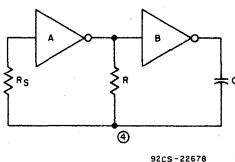
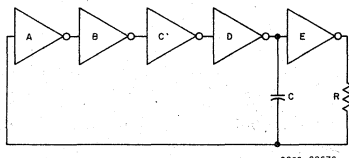

Fig. 4—RC-oscillator with the addition of  $R_S$ .
Fig. 8 - CD4047A oscillator section
The negative features of the input protection circuit can be partially compensated for by the addition of a resistor,  $R_S$ , in series with the input protection circuit, as shown in Fig. 4. Although the input inverter A is still clamped at one diode drop above  $V_{DD}$  or one diode drop below  $V_{SS}$ , the waveform at point (4) is allowed to swing well above  $V_{DD}$  and below  $V_{SS}$ . The larger swing reduces the dependency of transfer-voltage variations upon stability; the variable characteristics of the input protection circuit and their effect upon stability are greatly reduced. An analysis of this circuit is presented in
The RCA-CD4047A is an integrated RC oscillator that eliminates most of the disadvantages of the discrete circuits previously discussed. The primary reason for this improved performance is the special input-protection circuit which allows the capacitor charging waveform to swing above  $V_{DD}$  and below  $V_{SS}$  without the need for an external resistor. This circuit, shown in Fig. 8, has the same time period and stability as the circuit in Fig. 4 for the case where the value of  $R_S$  is infinite. However, a resistor is eliminated, as well as the disadvantages of a time constant caused by the resistor.
An additional advantage of the CD4047A is a reduction in power dissipation as compared to the discrete multivibrators discussed previously. Inverter A in Fig. 8 is designed with high-impedance components that limit power dissipation during the time that the inverter operates in the middle of its transfer region. Four additional inverters are used to gradually shift from a very-high-impedance inverter at the input to a very-low-impedance driver in series with the external timing resistor. Calculations for power dissipation and a comparison of  $P_{diss}$  for the CD4047A and a discrete oscillator are presented in Appendix D; the result is